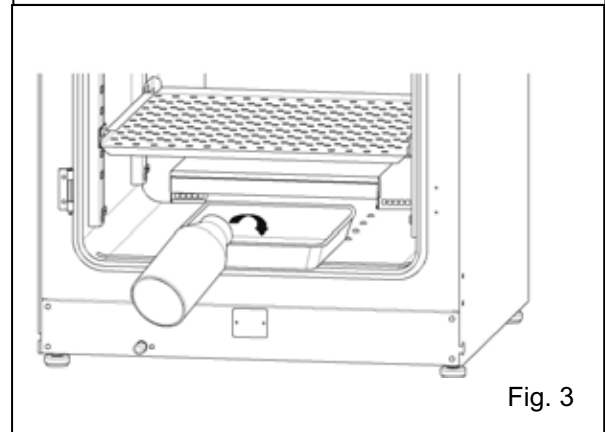

Fig. 3
4. Lift the humidifying pan cover off from the pins on the rear side. (See Fig. 3.)
5. Return the pan to the chamber and add sterile distilled water (approx. 1.5 L, preheated to 37°C). (See Fig. 3.)